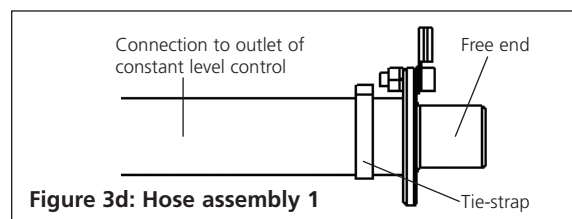

Figure 3d: Hose assembly 1
9. Refer to fig. 3d. Carefully attach the end of the short 16mm bore hose of hose assembly 1 to the outlet of the constant level control. From the hose kit take the 1000mm length of 16mm bore hose and attach to the free end of the earthed spigot. For ease of connection, first warm the end of the hose with hot water. Secure with the tie strap provided.